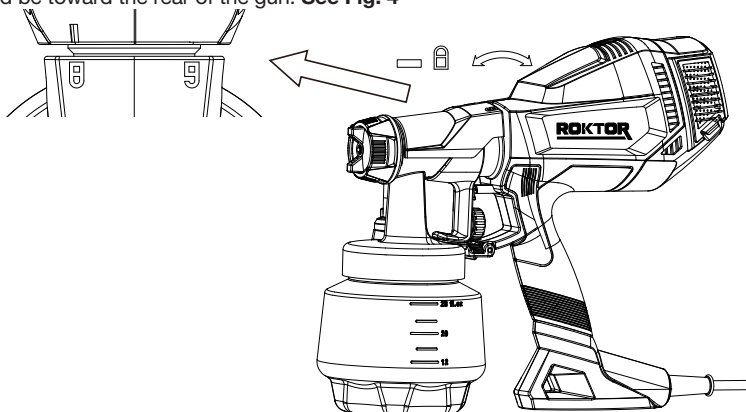

Fig. 1
1. SETTING UP (SEE FIG. 1 & 2)
- 1a) Hold the spray gun assembly (P5) and aim at the “unlock” on the spray gun assembly, then insert the spray gun into the main housing assembly. After insertion, turn it counter-clockwise to the “lock” position. **See Fig. 1**